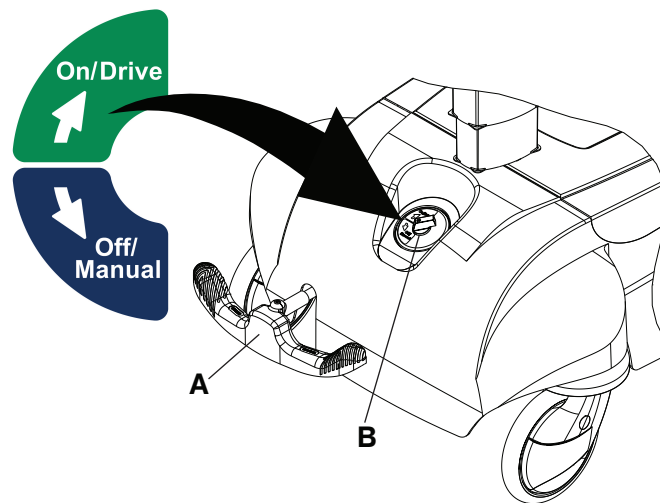

Figure 11 – On/Drive-Off/Manual switch
2. Put the brake/steer pedal (A) in the steer position (Figure 11).